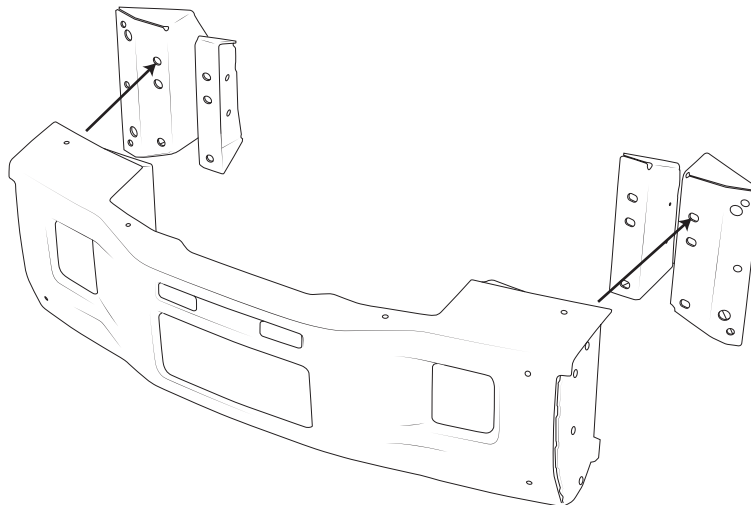

Figure 10
1. With a helper, lift Center Section into position inserting carriage bolts from the previous step through the upper holes in the outer frame mounting brackets (fig. 10).